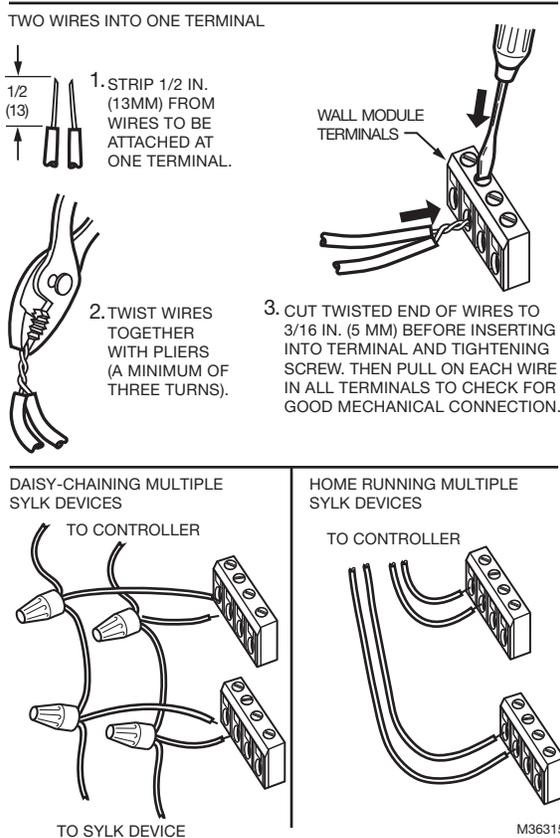

Fig. 6. Options for wiring multiple Sylk devices.
4. See Fig. 6 for wiring multiple Sylk devices.